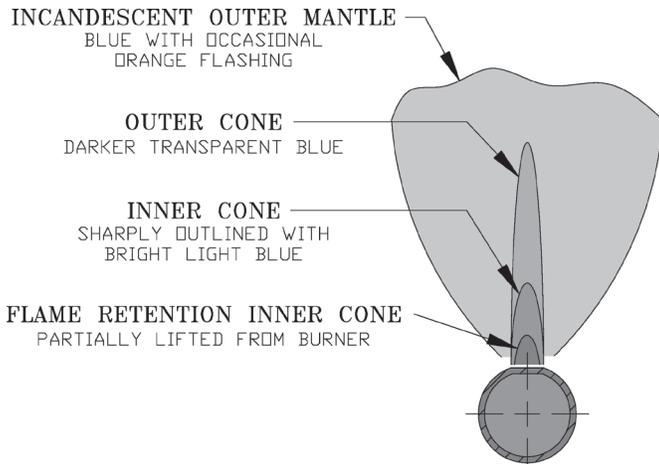

**Figure 9-4: Pilot Burner Flame (LP Only)**
**LP Gas Only.** Pilot burner produces three (3) flames. The center flame should be steady, medium hard blue enveloping 3/8 to 1/2 inch of sending probe. See Figure 9-4.